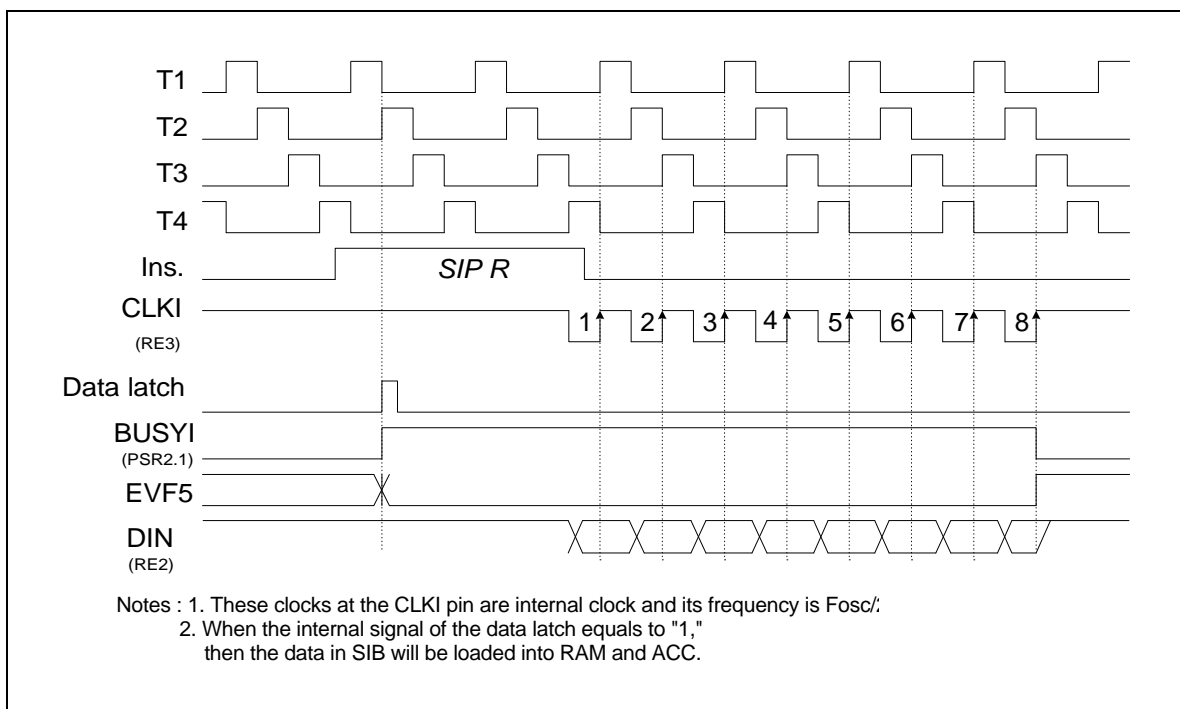

Figure 11. Timing of the Serial Input Function (SIP R)
(1) When the SIP R instruction is executed, the data will be loaded from the serial input buffer to the ACC and RAM first, and bit 1 of port status register 2 will automatically be set to "1" ( $BUSY_I = 1$ ). Then the CLKI pin will send out 8 clocks and the data from the DIN pin will be loaded to SIB at the rising edge of the CLKI pin. After the 8 clocks have been sent,  $BUSY_I$  will be reset to "0" and EVF.5 will be set to "1." At this time, if IEF.5 has been set ( $IEF.5 = 1$ ), an interrupt is executed; if HEF.5 has been set ( $HEF.5 = 1$ ), the hold state is terminated. Users can check the status of PSR2.1 ( $BUSY_I$ ) to know whether the serial input process is completed or not. If a serial input process is not completed, and the SIP R instruction is executed again, the data will be lost. The timing is shown in Figure 11.